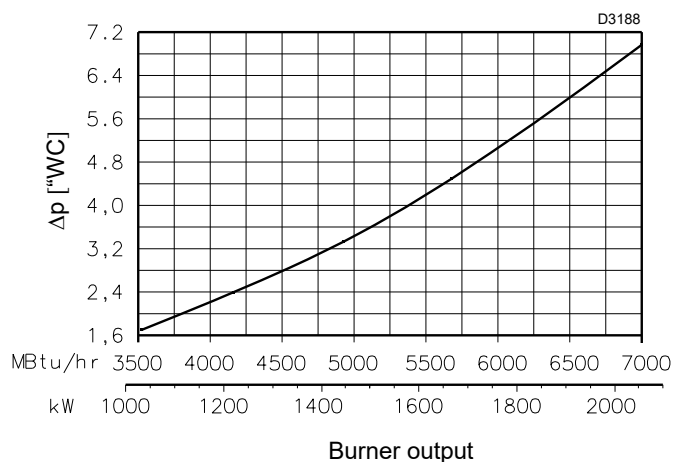

Fig. 33
- Find the nearest pressure value to your result in Fig. 33.